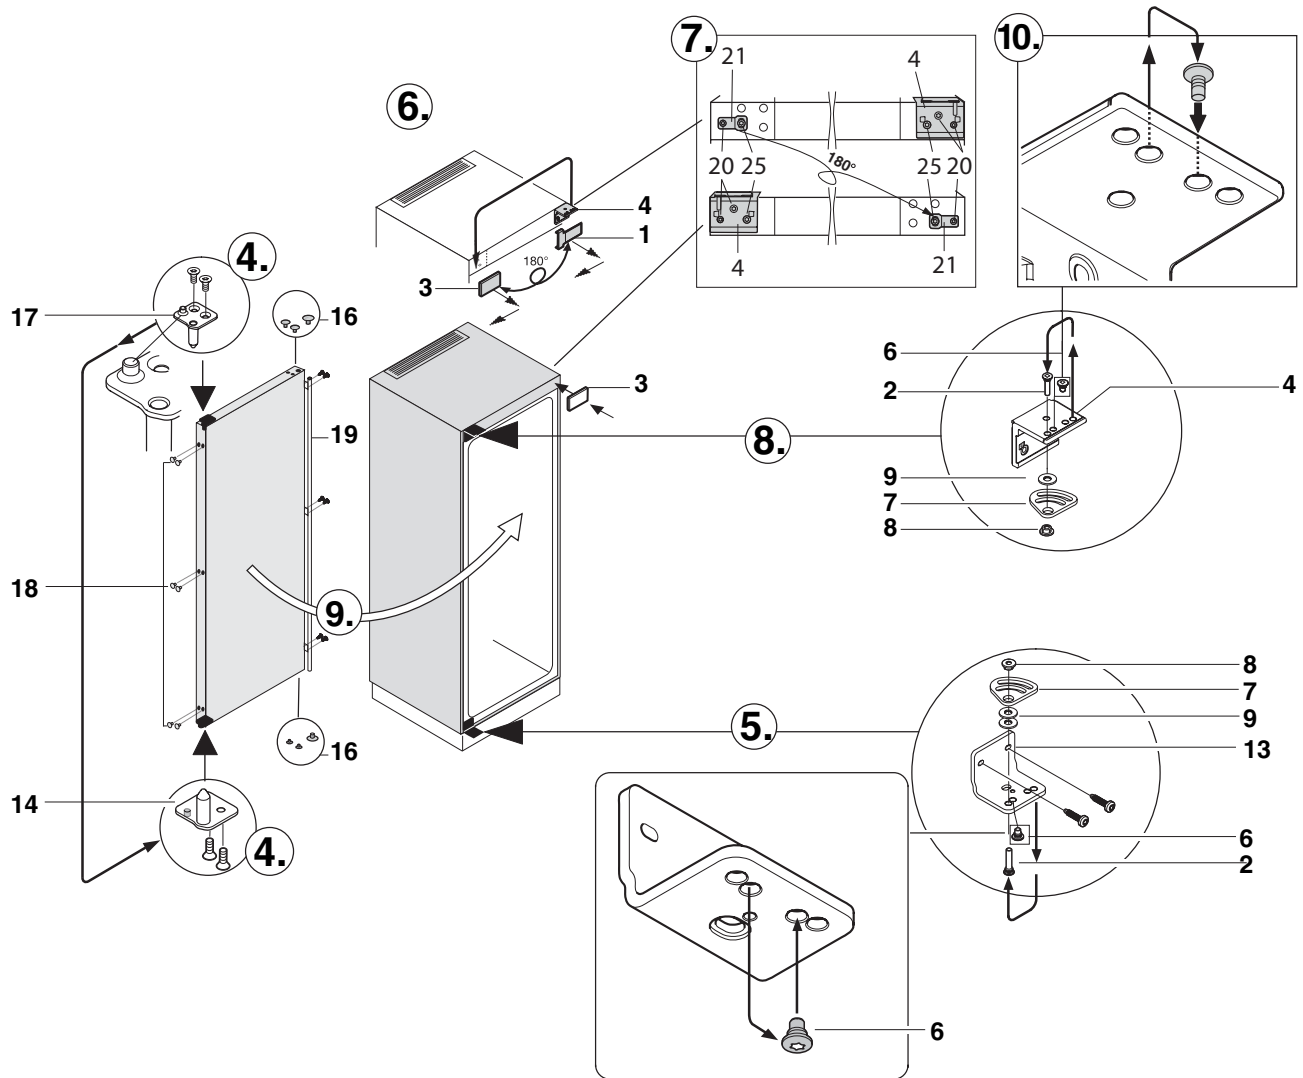

Figure 5
4. **Figure 5.** On the door:
- Carefully remove the cover caps (16) and place them in the holes on the other side.
- Reinstall the top door fitting (14) on the bottom side and the bottom door fitting (17) on the topside, at the opposite side of the door.
- Carefully remove the cover caps (18) from the opposite side of the door handle (19).
- Unscrew the door handle (19).
- Secure the holes with the removed cover caps (18) from the other side.
- Turn the door handle (19) 180° and screw it on the other side.
5. Unscrew the lower hinge (13).
- Remove the two washers (9), stop (7) and bushing (8).
- Remove the screw (6).